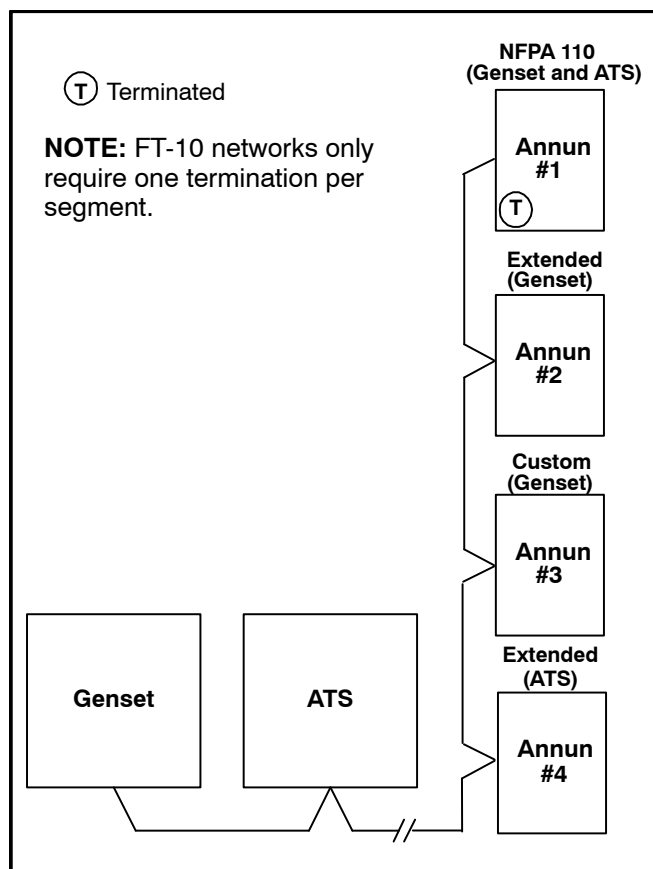

FIGURE 15-2. SELF-INSTALLED NETWORK REPRESENTATION
- All devices in the system have the ability to self-install to an FT-10 network (see Figure 15-2). The following genset and ATS devices have the ability to self-install: